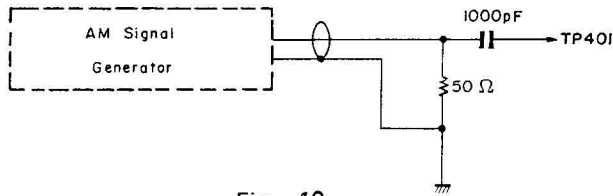

Fig. 10
- (a) Connect a AM Signal Generator to TP 401 as follow. Fig. 10.